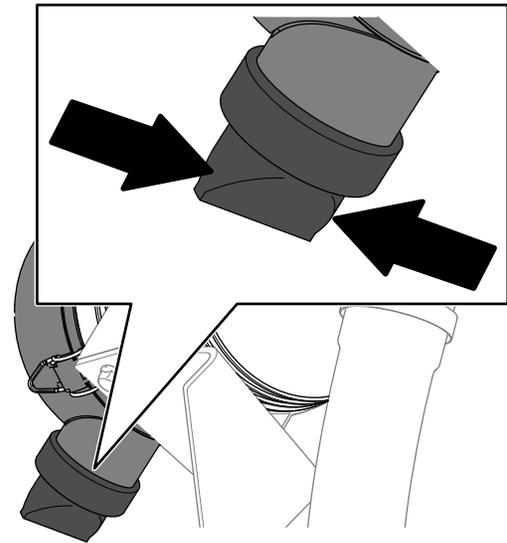

Figure 79
5. Squeeze the dust-ejector valve (Figure 79).